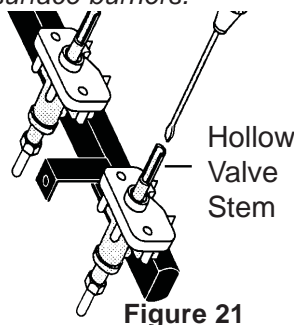

Figure 21
- Insert a thin-bladed screwdriver into the hollow valve stem and engage the slotted screw inside. Flame size can be increased or decreased with the turn of screw. Turn counterclockwise to increase flame size. Turn clockwise to decrease flame size (Figure 21).